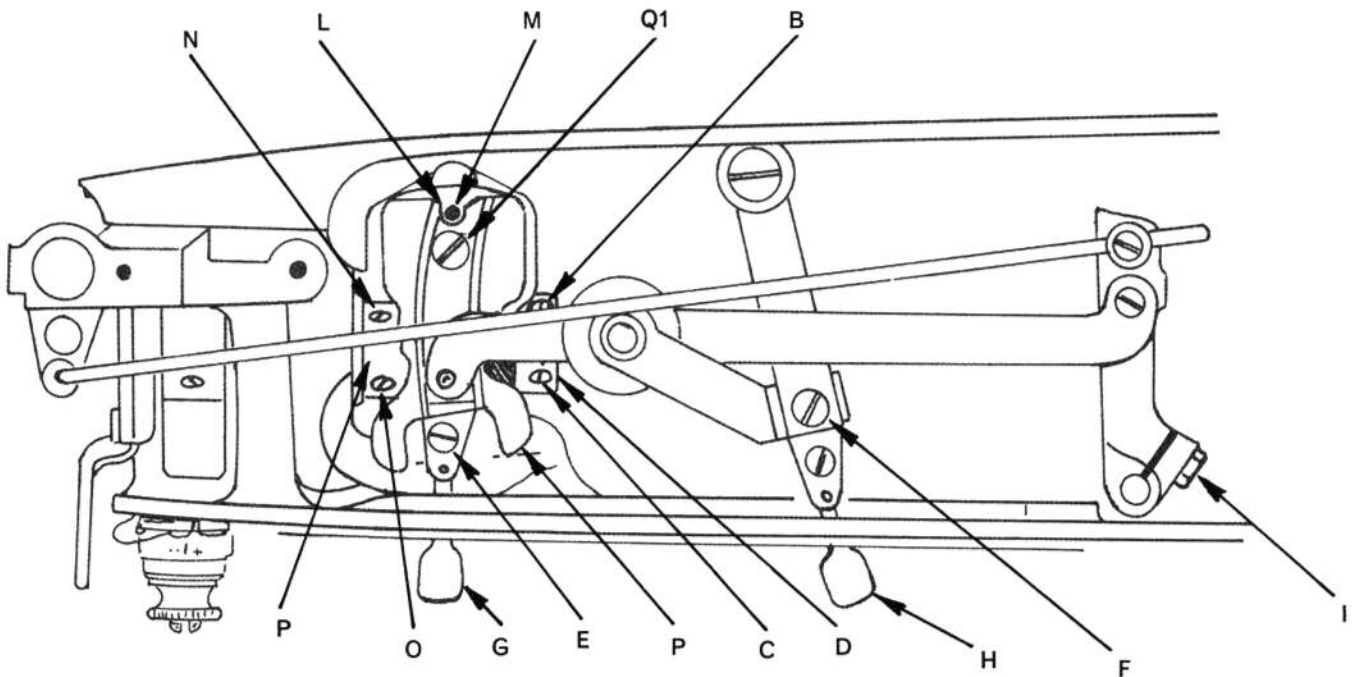

Fig. 45. Time Pendulum movement.
### SETTING (See Fig. 45)
### CHECK POSITION OF NEEDLE POSITION LEVER (See Fig. 45)
### CHECK FOR STRAIGHT STITCH (See Fig. 45)
2. Turn needle bar vibrating cam and gear eccentric stud Q1 (Fig. 45) lightly to eliminate play, without binding.